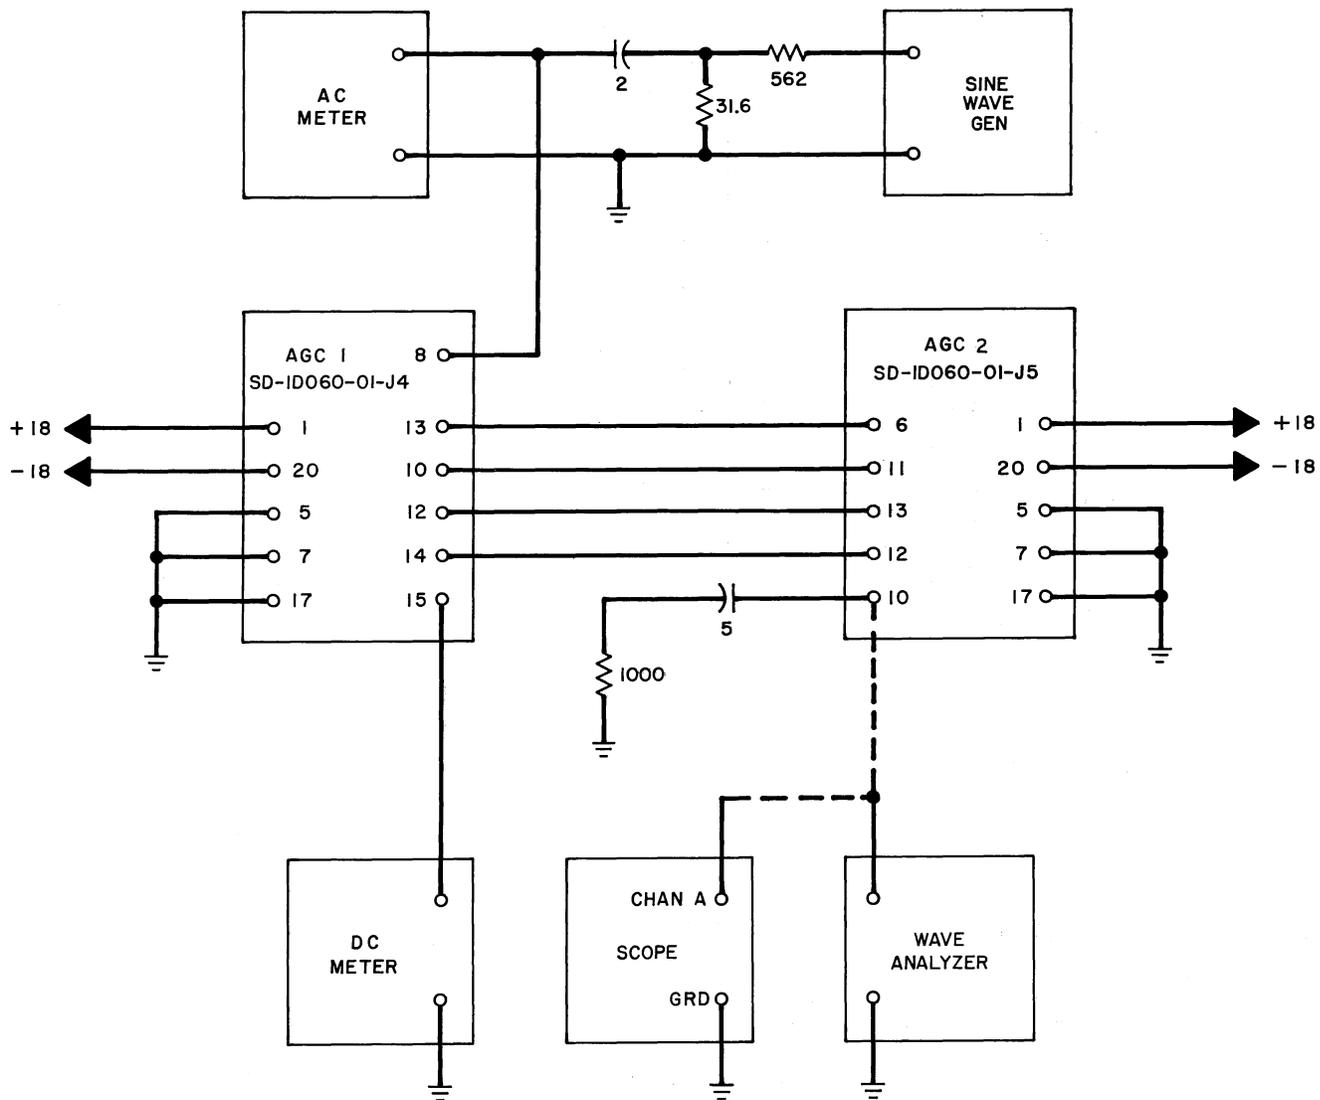

Fig. 21 - (Automatic Gain Control 2 Test)
- (1) The gain control test of the AGC2 card is made in conjunction with an AGC1 card. Connect the cards as in the suggested test circuit shown in Fig. 21 with the scope connected to terminal 10 of the AGC2 card. Apply power to both cards as specified in 10.25 (a).
- (2) Set the frequency of the sine-wave generator to 1800 cps ± 5 per cent. Set the output level of the generator to 0.
- (3) Slowly increase the output level of the generator until the carrier detector voltage on terminal 15 of the AGC1 card switches to $+6.6 \pm 0.8$ volts dc. The input level between terminal 8 and ground of the AGC1 card shall be 13.5 ± 0.4 mv rms. Record the input level.
(1) The distortion measurement of the AGC2 card is made in conjunction with the AGC1 card. Connect the cards as in the suggested test circuit shown in Fig. 21, with the wave analyzer connected to terminal 10 of the AGC2 card. Apply power to both cards as in 10.25 (a).
(2) With the wave analyzer connected to terminal 10 of the AGC2 card, apply a 78 ± 1 mv rms signal at 600 cps ± 5 per cent to input terminal 8 of the AGC1 card. Tune the wave analyzer to obtain a peak reading on the meter at the fundamental frequency of 600 cps. Set the meter indication to 0 db by adjusting the wave analyzer reference adjustment.
(3) Tune the wave analyzer for a peak meter reading in the vicinity of the second harmonic frequency of 1200 cps. The meter should indicate -30 db or lower at the second harmonic frequency.